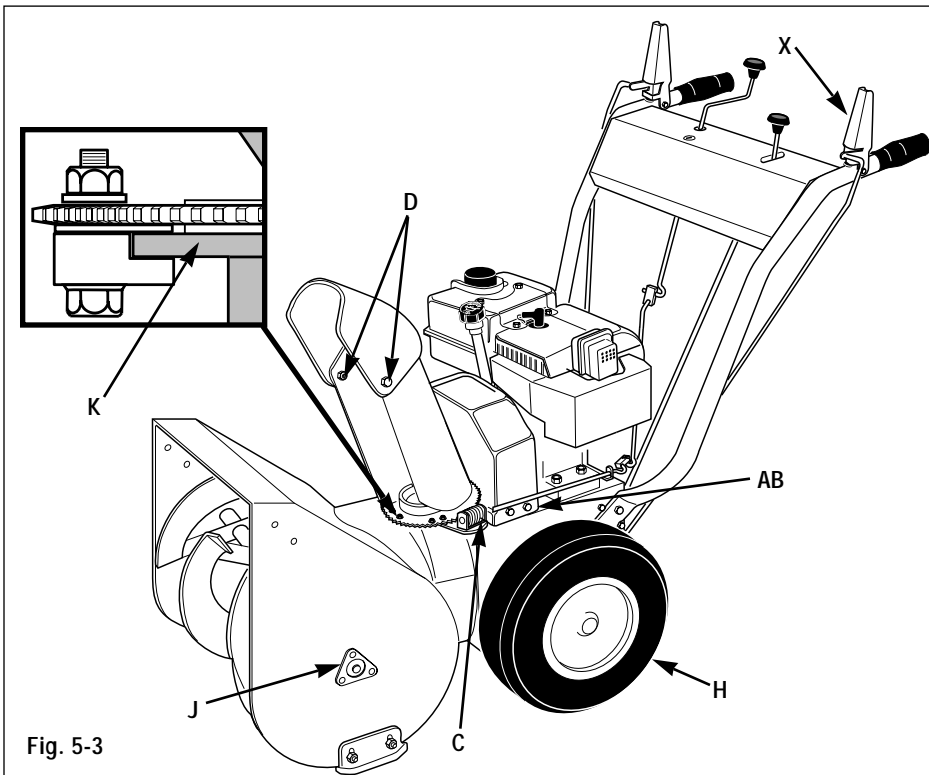

Fig. 5-3
1. Lightly oil both the deflector chute cap pivot points (D, Fig. 5-3).
3. Remove the left wheel (H, Fig. 5-3). Clean the wheel shaft and apply multi-purpose grease to the wheel shaft. Reinstall the left rear wheel.
4. Apply oil to the bearings on sides of the auger shaft (J, Fig. 5-3).
5. Clean dirt and old grease from the flange at the bottom of the discharge chute (K, Fig. 5-3). Apply multi-purpose grease to the worm gear (C), toothed portion of flange and the flange.
3. Squeeze wheel drive control lever (X, Fig. 5-3) against handlebar. Measure
1. Remove the bolts (AB, Fig. 5-3) and the belt cover from the unit.
5. Remove wheel drive belt (AG) from lower drive pulley (AH). Squeeze the wheel drive control lever against the handlebar (X, Fig. 5-3) to increase the gap between lower pulleys as needed.